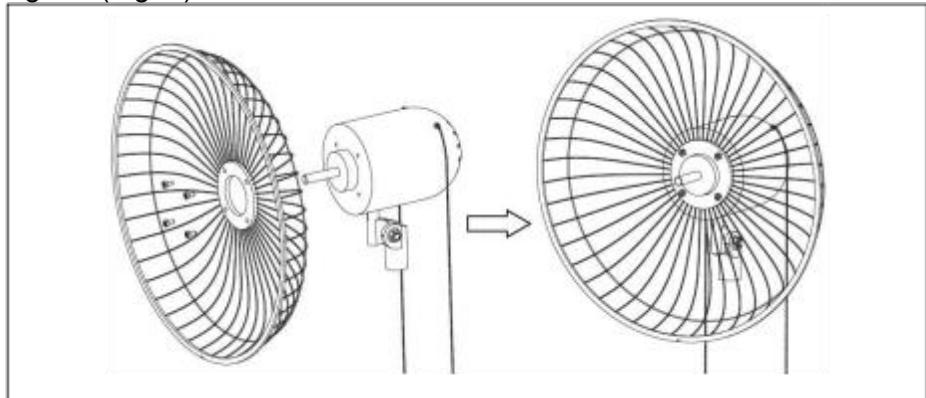

Fig.5.
- 1). Remove the grille screws from the motor head.Then,fix the rear grille(12) on the motor head with the rear grille screw (13) as shown in the diagram (Fig.5.)